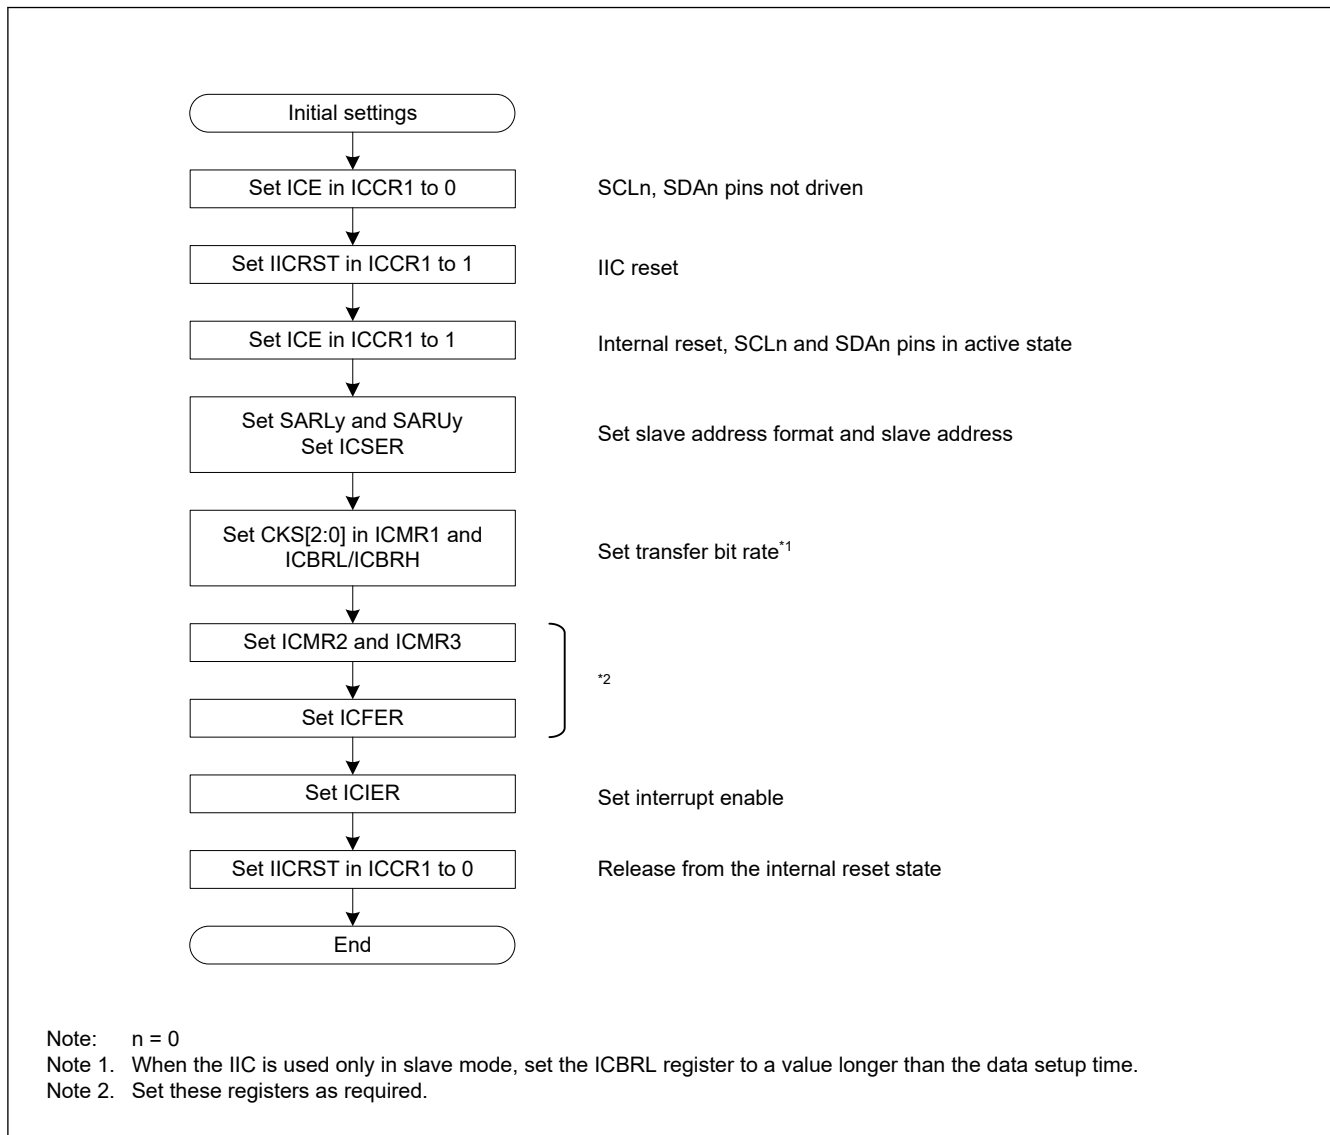

Figure 28.5 Example IIC initialization flow
Before starting data transmission or reception, initialize the IIC using the procedure shown in Figure 28.5.
4. Set the SARLy, SARUy, ICSEr, ICMR1, ICBRH, and ICBRL registers ($y = 0$ to 2), and set the other registers as required. For initial settings of the IIC, see Figure 28.5.